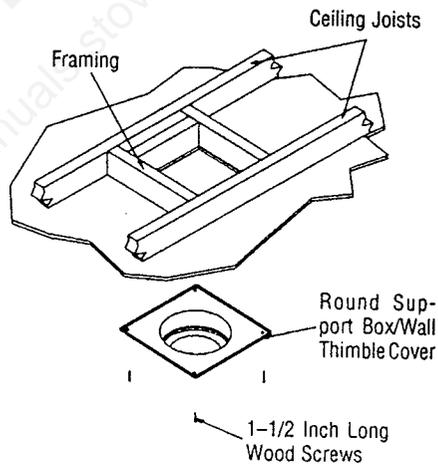

Figure 24
B. To install the Round Support Box/Wall Dura Vent Part No. 940, Thimble in a flat ceiling, cut a 10" square hole in the ceiling, centered on the hole drilled in Step A. Frame the hole as shown in *Figure 24*.